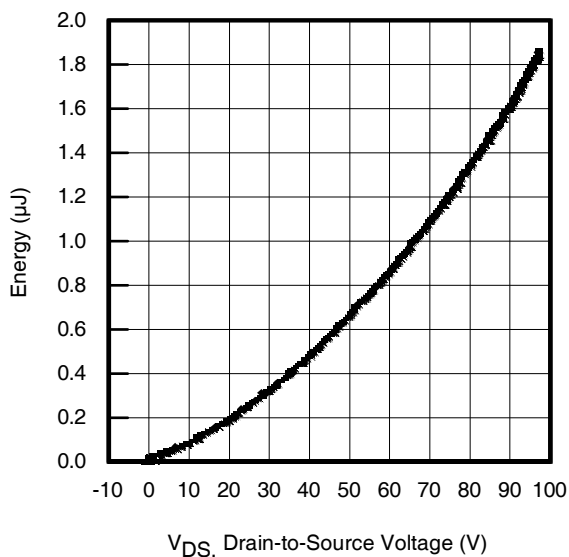

Fig 11. Typical C_{OSS} Stored Energy
| $C_{oss \text{ eff. (ER)}}$ | Effective Output Capacitance (Energy Related) ⑥ | — | 420 | — | | $V_{GS} = 0V, V_{DS} = 0V \text{ to } 80V$ ⑥, See Fig.11 |